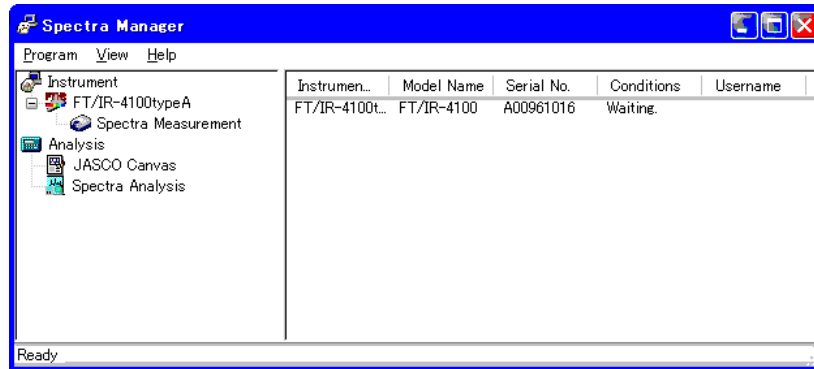
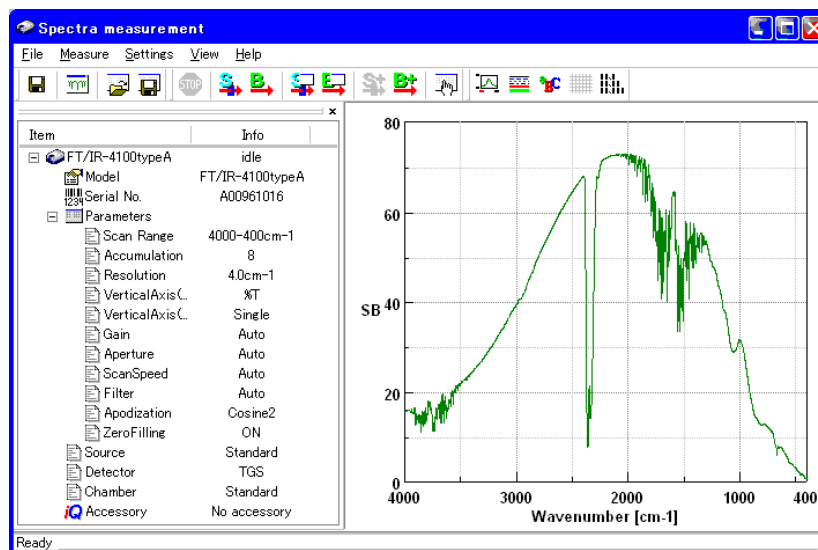

Fig.2.10 Spectra Manager main window
Fig.2.12 Spectra Measurement Program
- (2) Upon starting Spectra Manager, the Logon dialog shown below is displayed. (Fig. 2.10)
- (3) All of the spectrometers that have been setup are shown under the [Instrument] item in the tree-view in the left panel of the Spectra Manager main window. (Fig. 2.10) To begin spectra measurement, run the [Spectra Measurement] program corresponding to the spectrometer you want to use by double-clicking the [Spectra Measurement] icon. The spectra measurement program starts and the following screen is displayed. (Fig. 2.12)